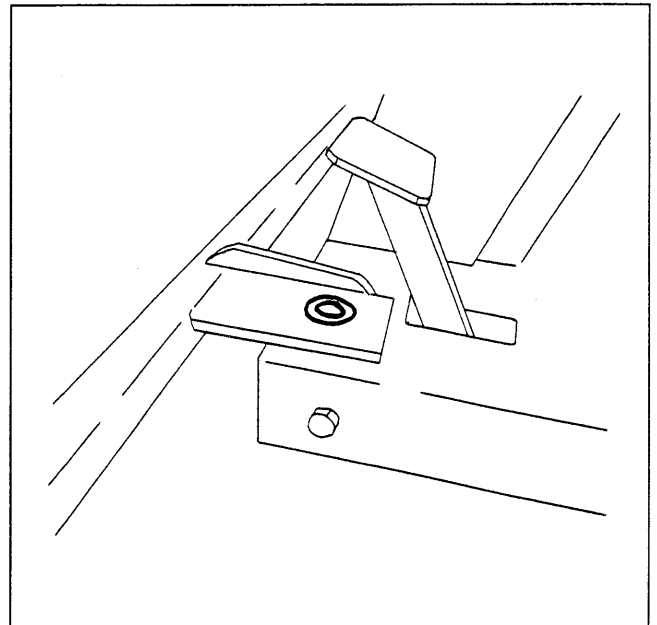

Figure 4
10. Using the top, front hole in the left, front bracket as a guide drill a 9/16" dia. hole through the top of the platform. Repeat for the right side. (see figure 4)